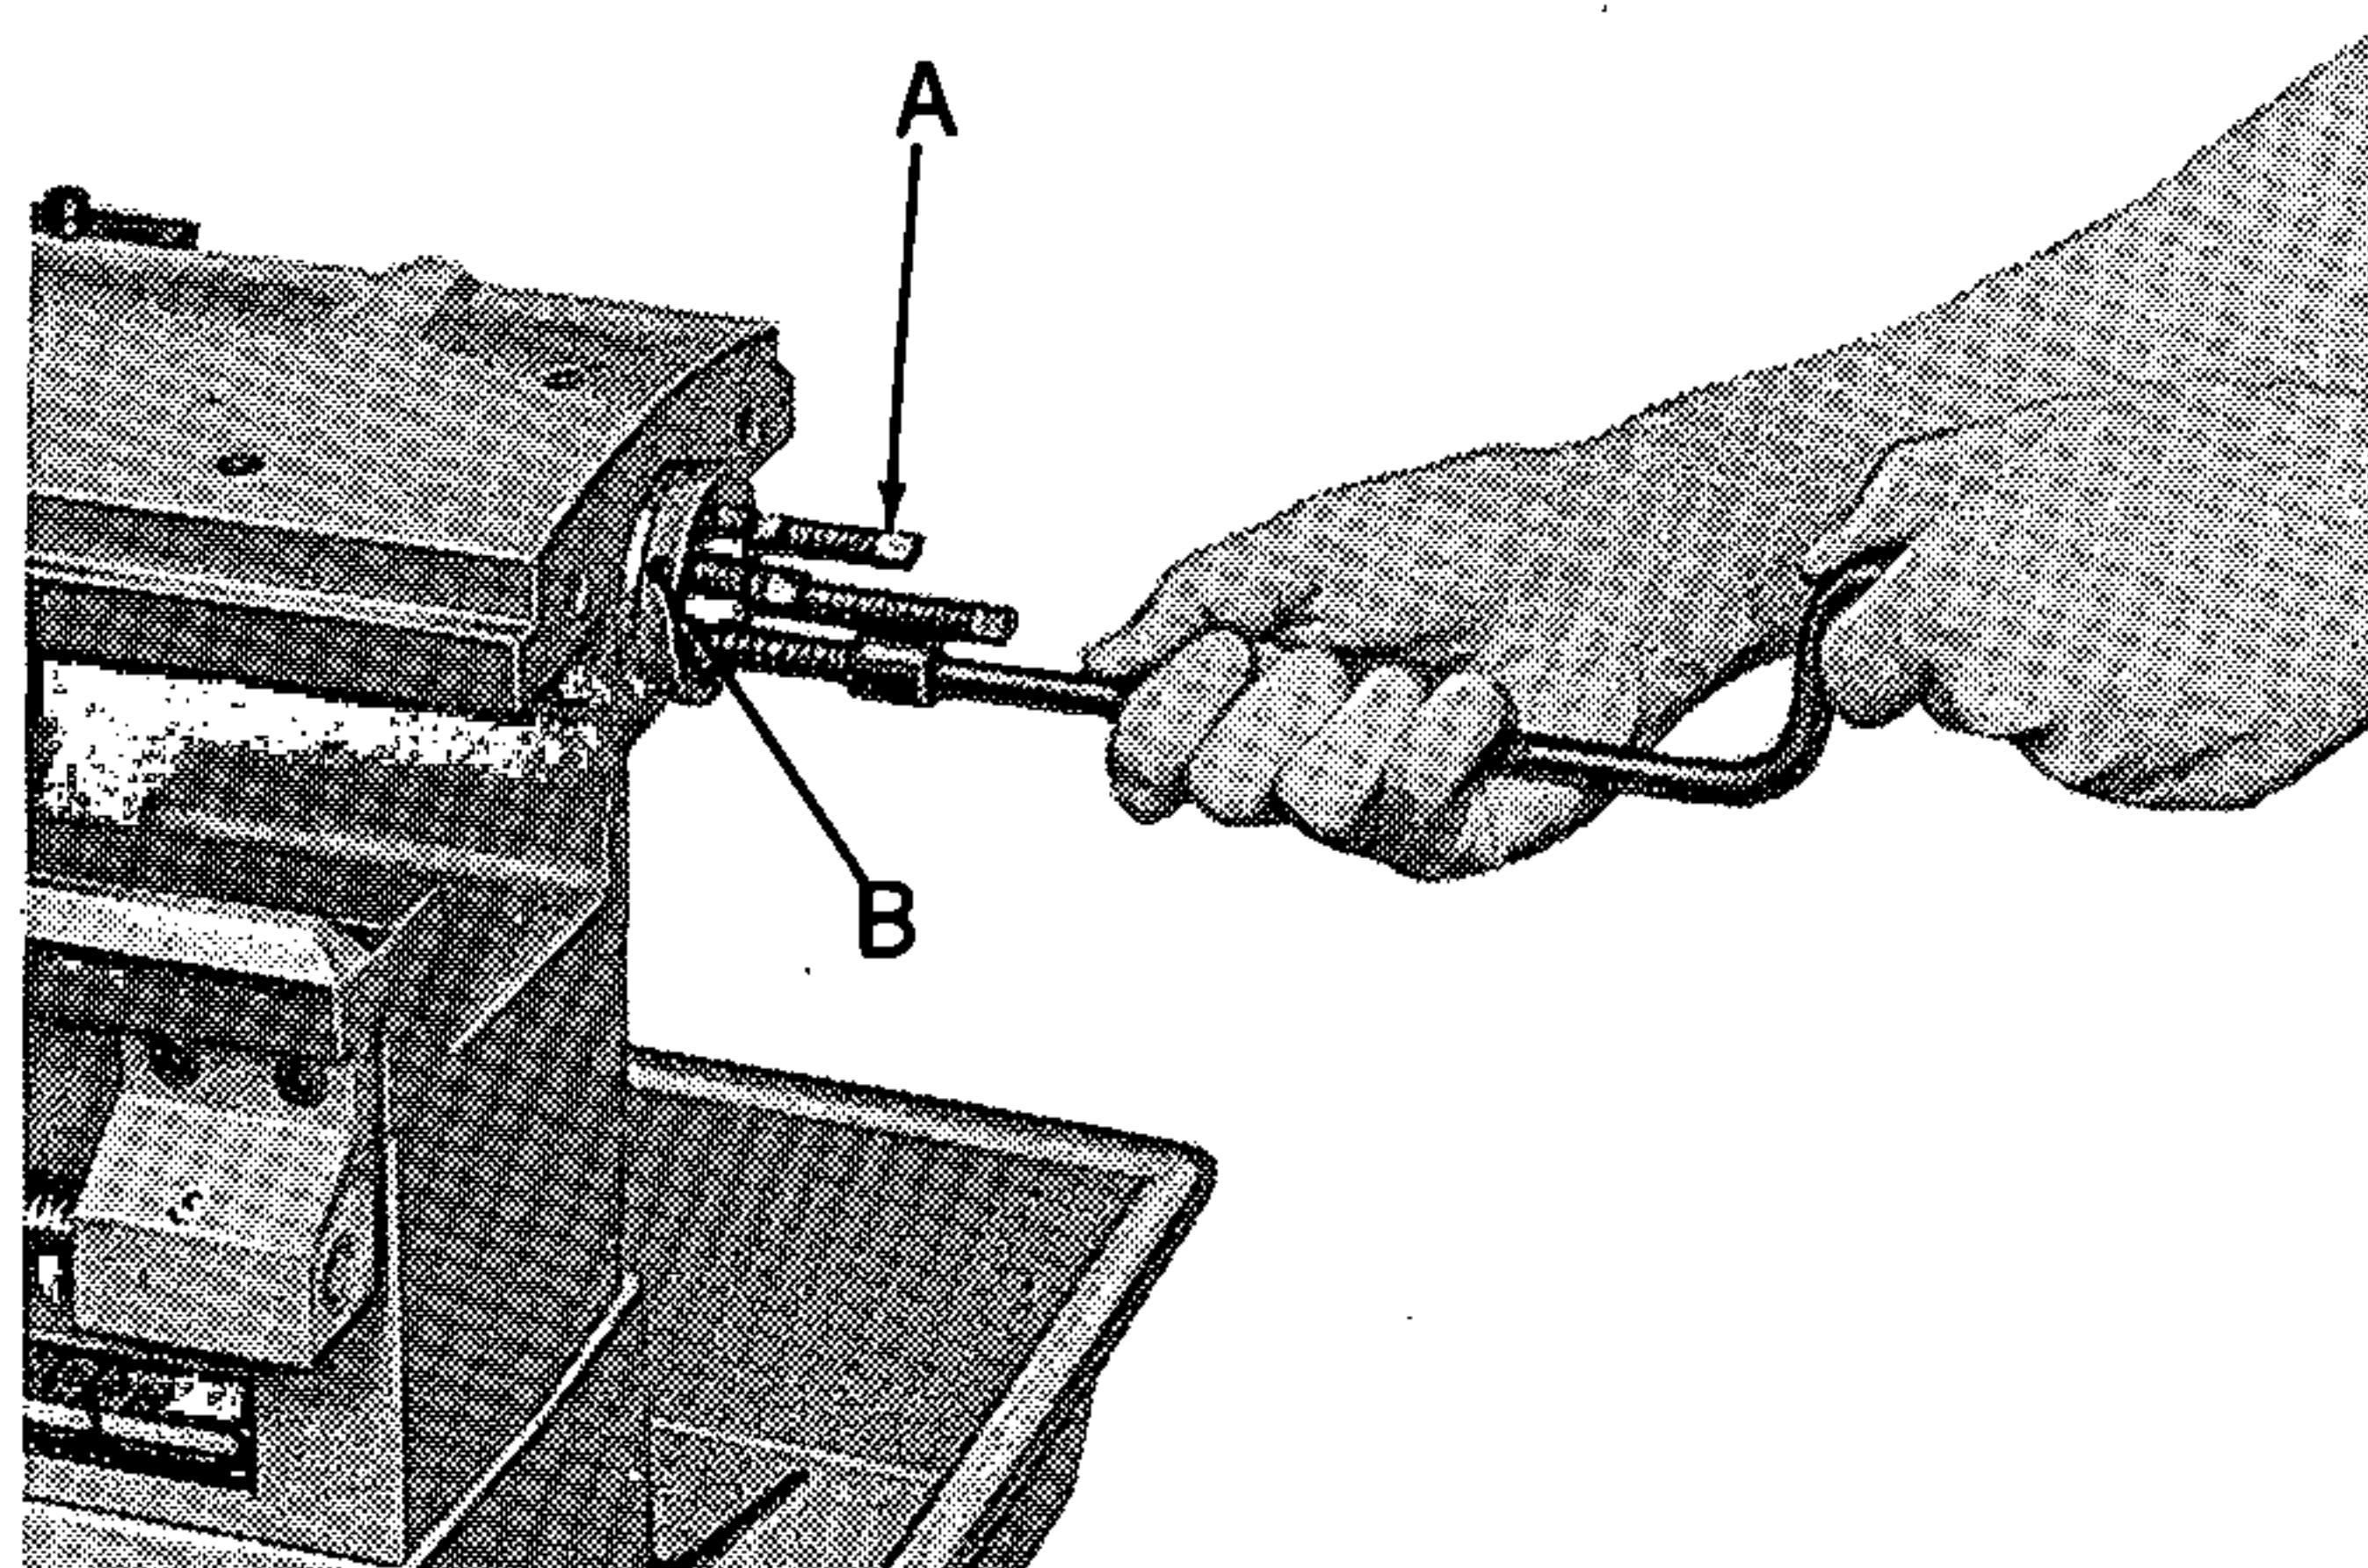

Figure 5
1. Six adjustable stop screws (A, Fig. 5) — one for each of the turret stations, are located at rear of turret slide.
2. To adjust, loosen lock screws (B) in ring and turn screws to position desired — use speed wrench, see figure 5. Tighten lock screws in ring.